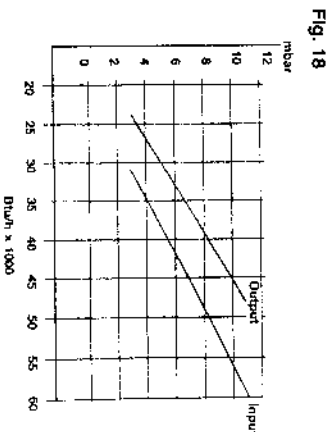

Fig. 18
- The maximum heat input may be reduced by a simple adjustment to suit the system load. Refer to fig 18 to determine the pressure for the heating output you need (e.g. for 40,000 Btu/h a pressure of 8 mbar is needed).